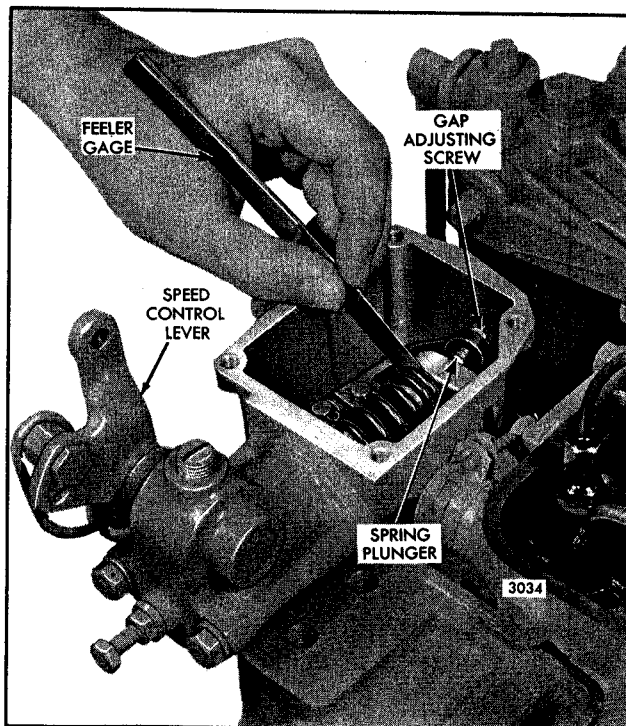

Fig. 1 - Adjusting Governor Gap
4. Insert a .006" feeler gage between the spring plunger and the plunger guide as shown in Fig. 1. If required, loosen the lock nut and turn the gap